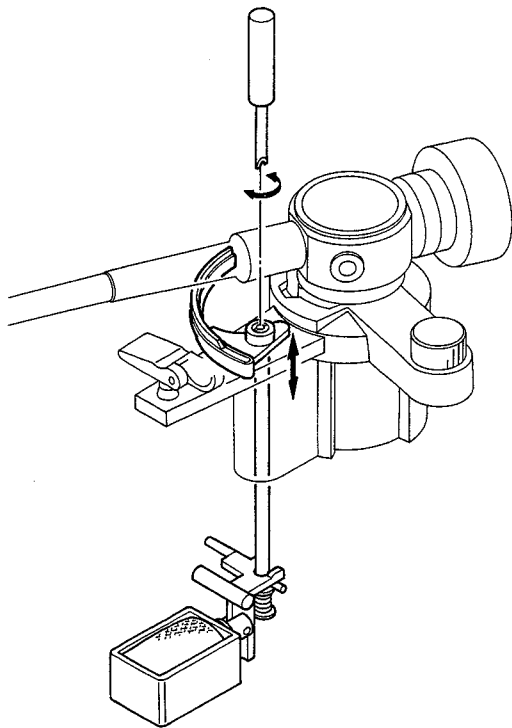

Fig. 5.4
- (1) Move the Tonearm away from the Rest.
- (2) Turn the screw of Arm Elevator with the Cueing Height Adj. Screwdriver (OD09025A) to adjust the cueing height of the Tonearm as shown in Fig. 5.4.